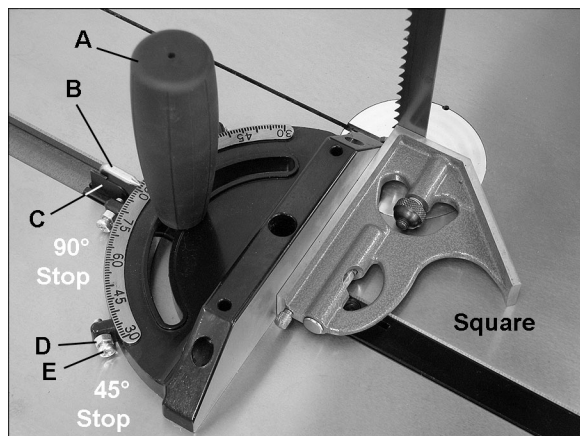

Figure 32
1. Place a square against miter gauge face, and against flat of blade, as shown in Figure 32. (Place square against flat of blade, not against the teeth which are set wider than the blade body). A wide blade is preferred for this procedure.
3. Flip stop plate (C) back down, and loosen 90° stop hex nut. Adjust screw until it contacts 90° stop plate.
5. Loosen set screw at base of pointer (B) and shift pointer so that it lines up with 90° mark on scale.
7. The 45° stops can be checked in similar fashion, using an angle gauge similar to that shown in Figure 32.